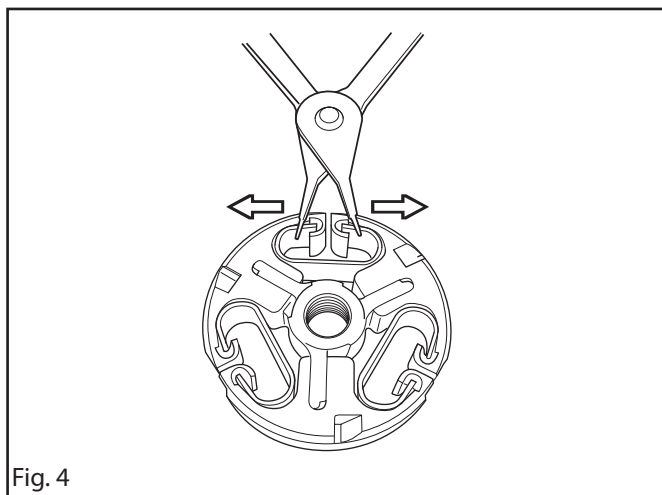

Fig. 4
- Stretch out the spring with circlip pliers at the most worn point and press it out from the clutch hub. See figure 4.